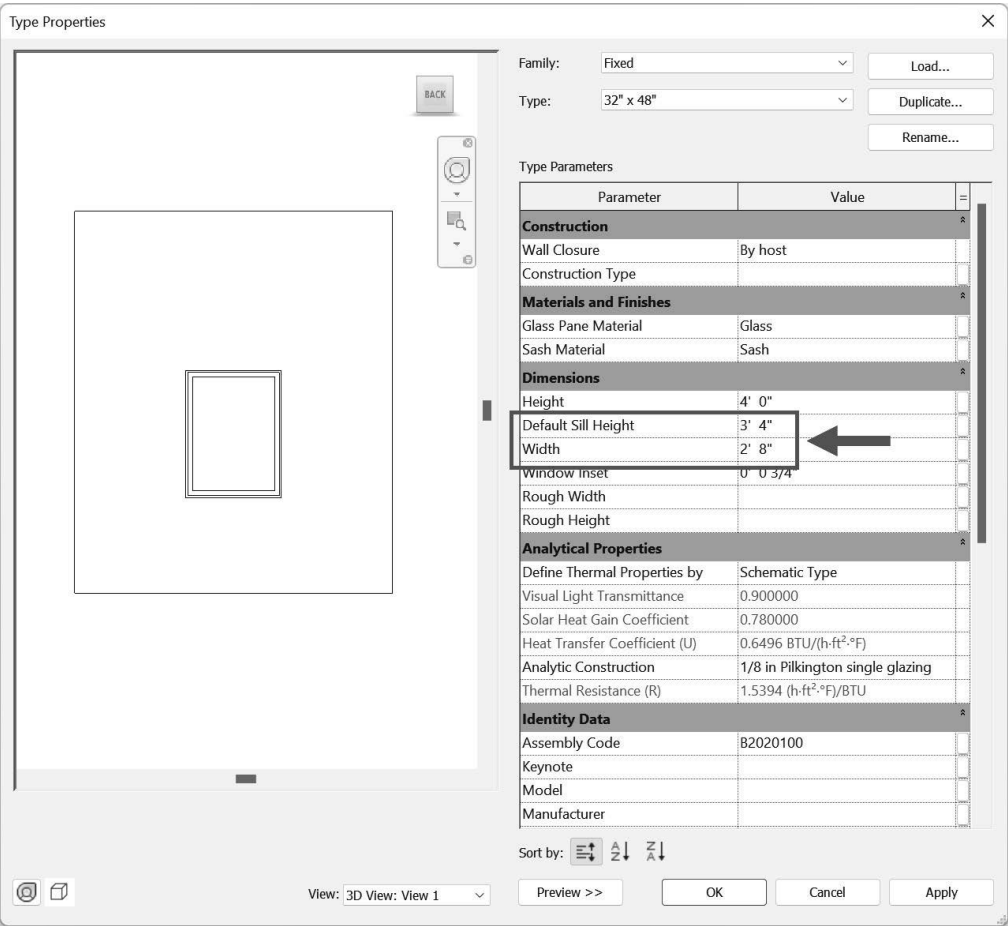

FIGURE 3-5.8 New window size with modified window sill height
- 15. Adjust the sill height for your new window size to fit within masonry coursing as well. Set the sill height for *Fixed: 32" x 48"* to be *3'-4"* (Figure 3-5.8).